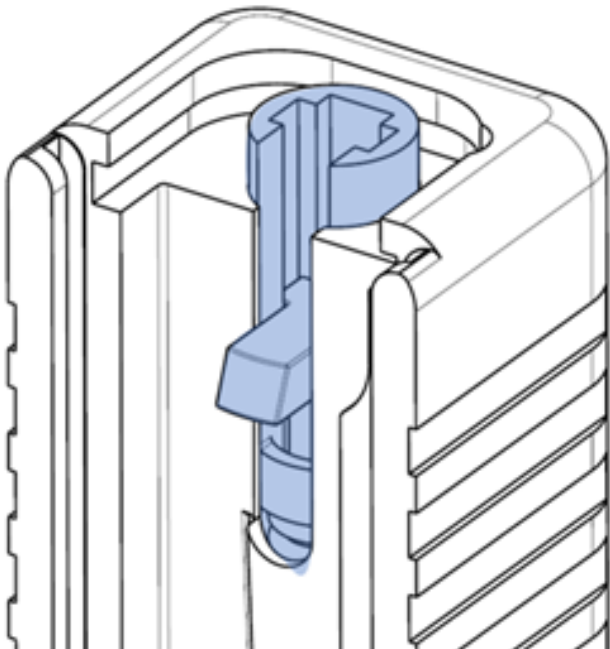
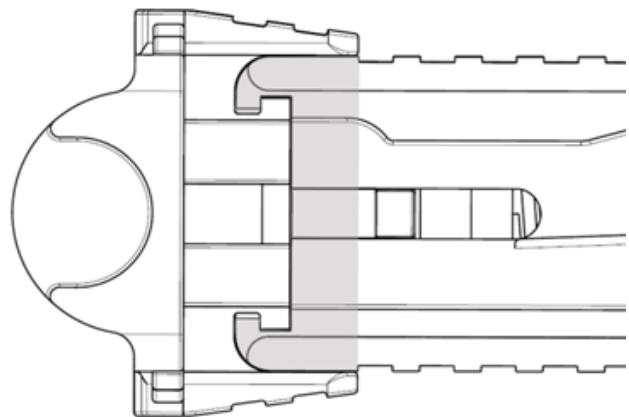

Figure 24: Firing Pin Assembly with its uncompressed Firing Pin Spacer Sleeve standing out of the Slide.
Figure 25: RISCpro backplate mounting slots.
4. With the Firing Pin Spacer Sleeve uncompressed (Figure 24), slightly insert the RISCpro Backplate into the Slide Plate Cover housing (Figure 25).